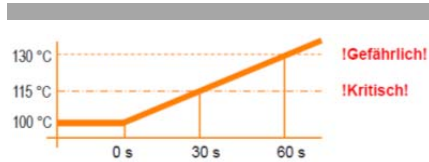

Fig. 1: Temperature rise on stalled start of compressor
- (1) The compressor motor winding must not be overheated. This happens when the starting torque of an inverter dimensioned too small is not sufficient for starting the compressor. The consequence of a stalled start is insufficient cooling of the compressor motor. The winding temperature will then rise quickly and at 120 °C or above it is in danger (see Fig. 1).
- (2) A stalled starting attempt has to be detected immediately and the inverter inhibited before the winding temperature increases to a critical temperature. Restarting of the inverter must be prevented for a period of at least 1 minute.